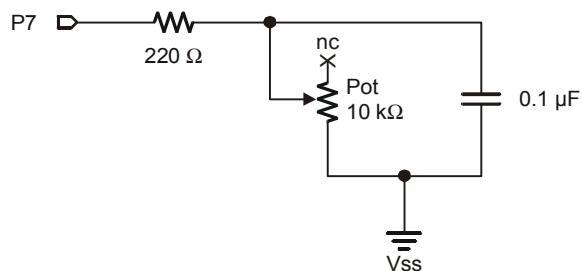
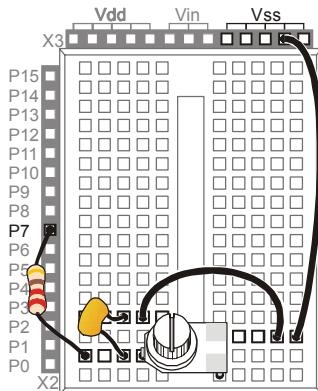

Figure 5-11
Figure 5-12
Figure 5-11 shows a schematic for the fast RC-time circuit, and Figure 5-12 shows the wiring diagram. This is the circuit that you will use to monitor the position of the potentiometer's input shaft with the help of the BASIC Stamp and a PBASIC program.
- ✓ Build the circuit shown in Figure 5-11.
- ✓ Leave your potentiometer RC-time circuit from Activity #3 on your prototyping area. If you need to rebuild it, use Figure 5-11 on page 150 and Figure 5-12 on page 151. Make sure to use the 0.1 μ F capacitor, not the 0.01 μ F capacitor.